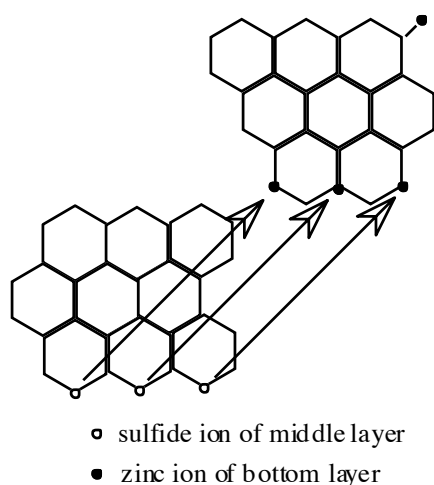

Fig. 7 Placing the middle layer over the bottom layer.
8. The middle layer can now be put in place over the bottom layer and bonded to it. Align the sulfide ions of the middle layer over the bonds pointing up from the bottom layer, and push the layers together. (Fig. 7)